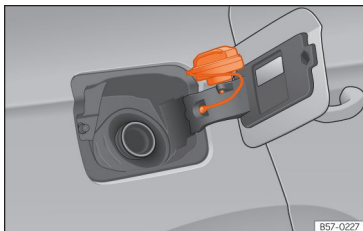

Fig. 186 Fuel tank flap with tank cap attached.
- Place it in the space on the hinge of the open flap >>> **Fig. 186**.